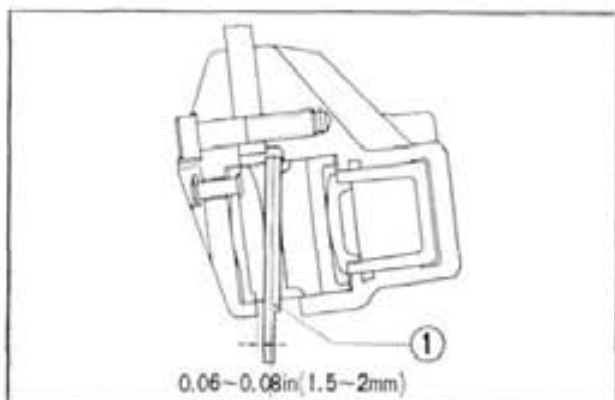

Fig. 19-19 ① Brake disc
- (1) Check the wear of the front brake friction pads by measuring the clearance between the front of the caliper and brake disc face by means of a thickness gauge. If the clearance becomes less than 0.08 in (2.0 mm) both friction pads should be replaced with new Honda genuine replacement pads as a set. (Fig. 19-19)